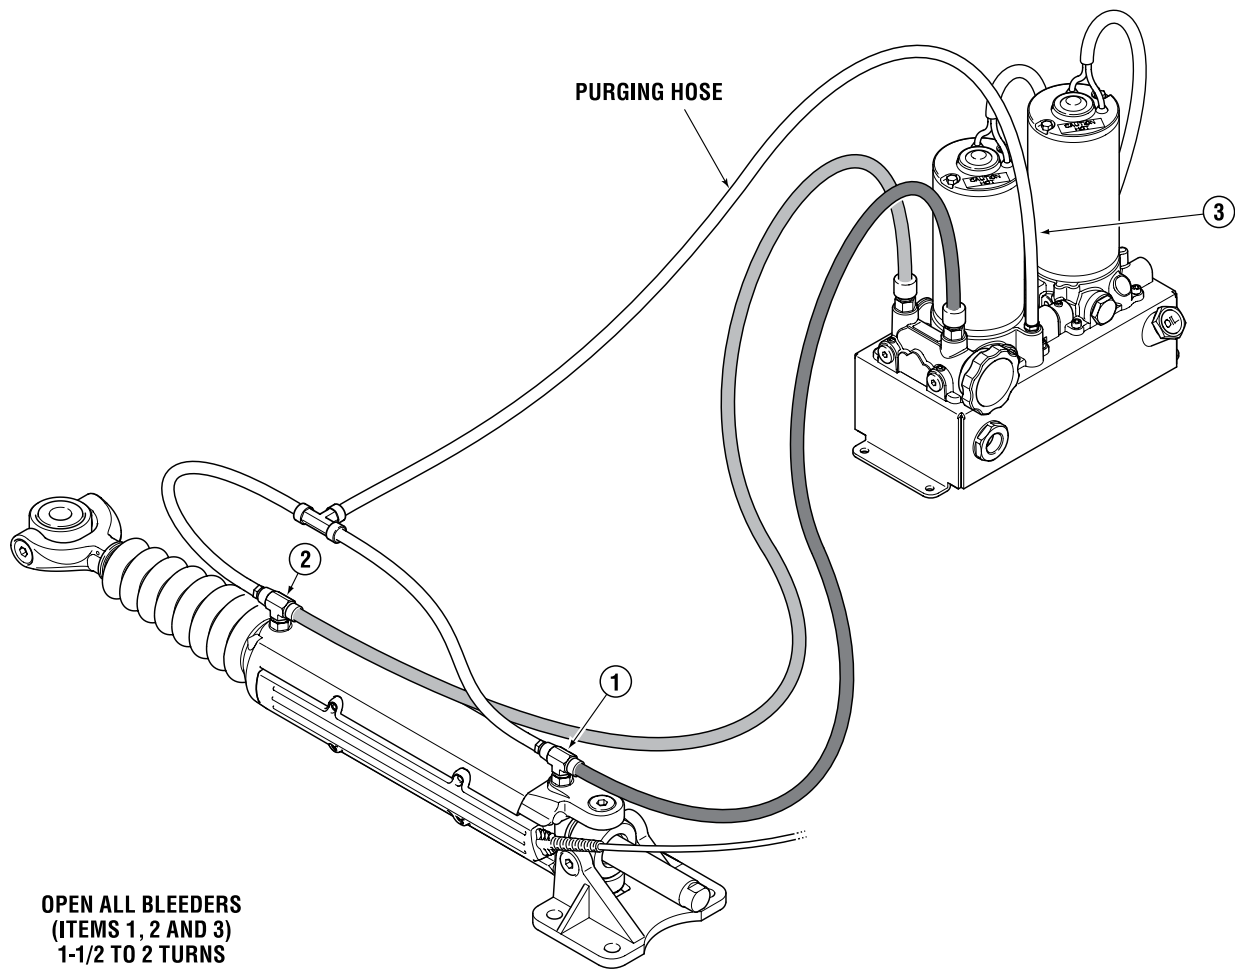

Figure 7-6.
2. Connect the purge hose as shown in figure 7-6.
**Failure to open the pump bleed fitting (item 3 in figure 7-6) may cause the purge hose to rupture.**